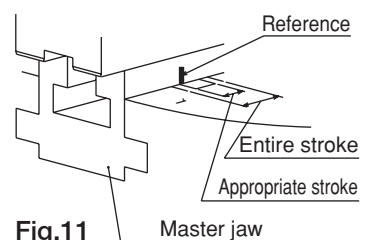

Fig.11
- Check that the reference mark on the side of the No. 1 and No.2 master jaws are within the range of the entire stroke as shown in Fig. 11. Full stroke the jaw at least once a day to check it before work or when supplying grease, etc. If it goes out of the range of appropriate stroke due to loosening of the draw nut, etc., the work may not be gripped, and this is dangerous as the work will fly out.